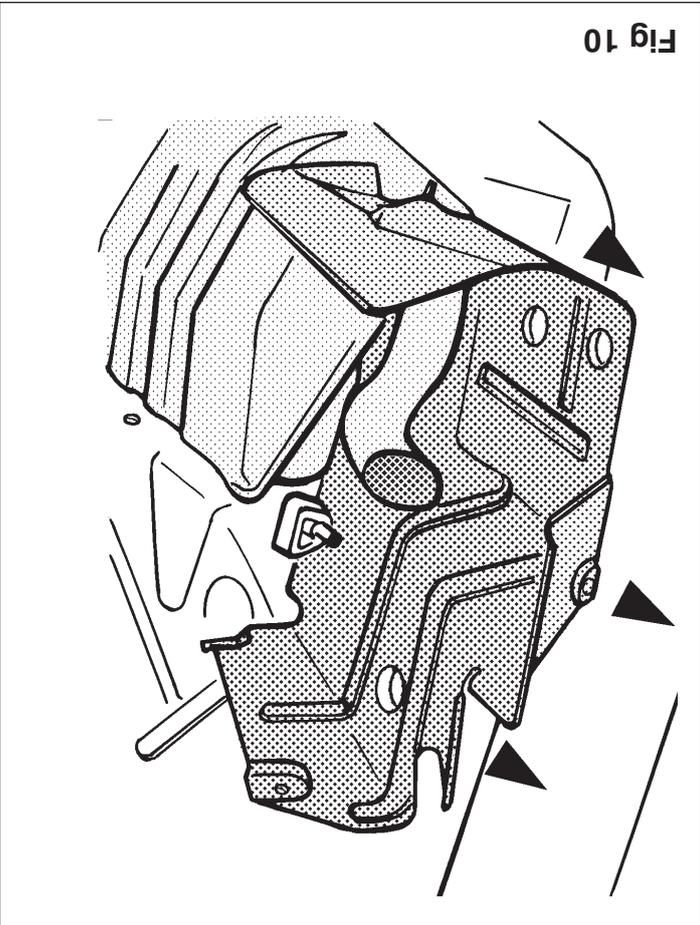
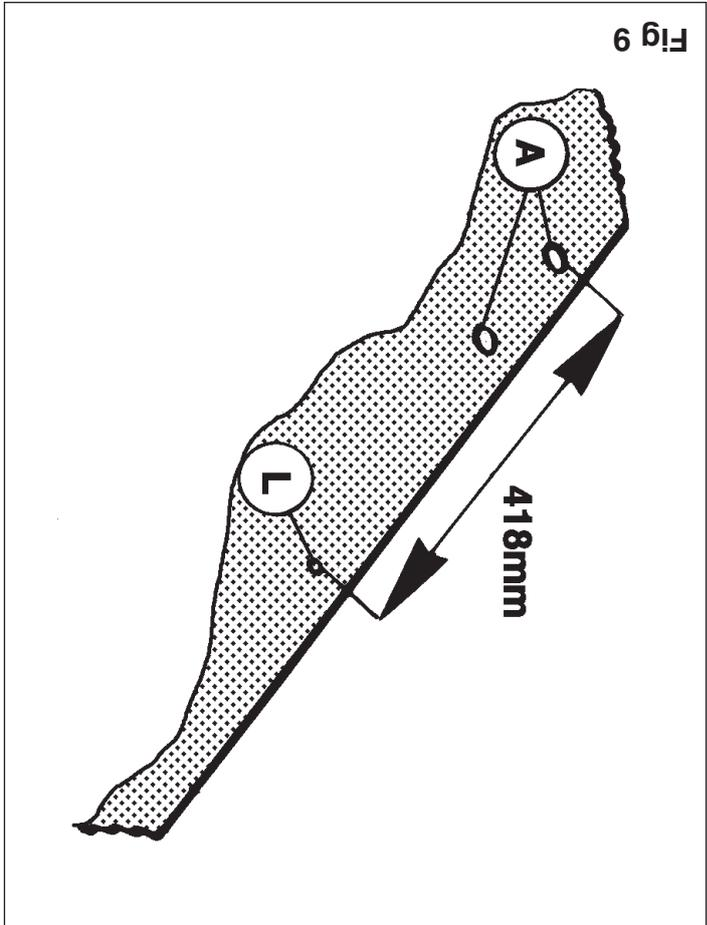
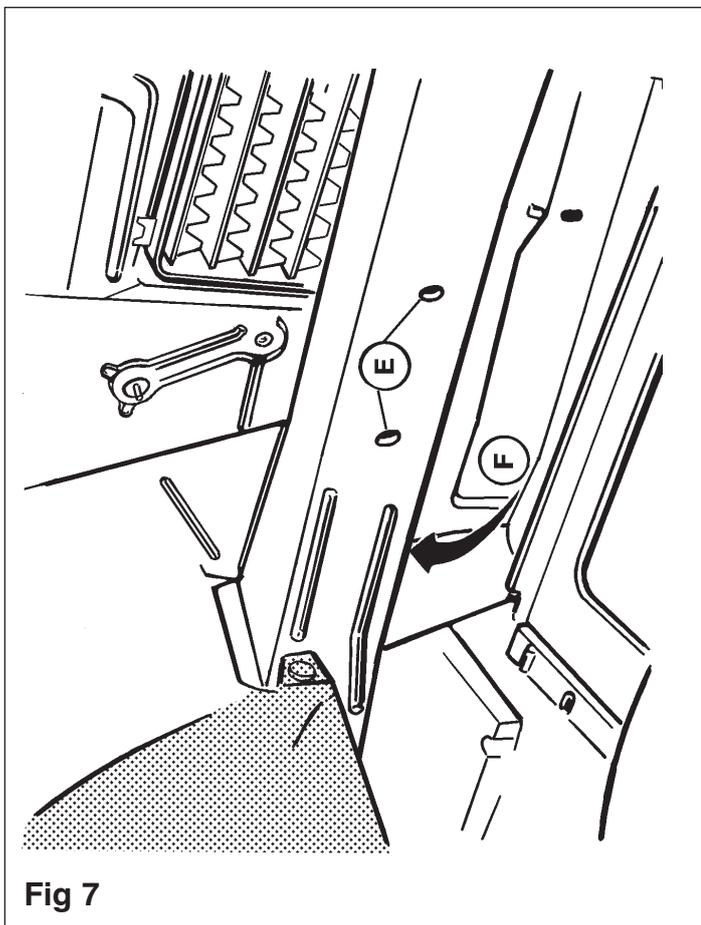
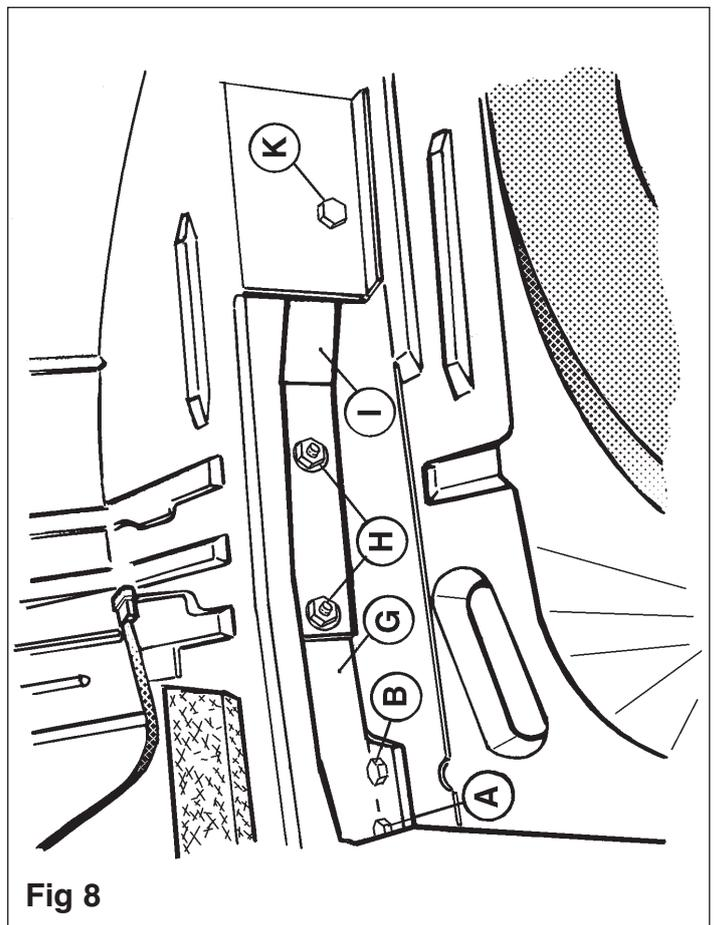

Fig 10
Fig 9
Fig 7
Fig 8
3. Plaats contra l overeenkomstig fig.8 en bevestig t.p.v. de punten H twee bouten M10x35 inclusief sluitringen ø25x10.5x4, veerringen en moeren. Bevestig t.p.v. de punten L en K twee bouten M10x35 inclusief sluitringen M12x45 inclusief veer-, sluitringen en moeren. Boor de gaten H
2. Boor de deukjes genoemd in punt 1, 15mm door de bodemplaat. Plaats contra's C en D overeenkomstig fig.5 en fig.6 in de kofferbak. Bevestig t.p.v. de punten D twee bouten M10x35 inclusief sluitringen ø25x10.5x4, sluitring ø25x10.5x4 en veerring overeenkomstig schets en fig.7. Breng contra G overeenkomstig fig.8 in de kofferbak aan. Plaats de trekhaak en bevestig deze overeenkomstig schets t.p.v. de punten A d.m.v. vier bouten M12x45 inclusief veer-, sluitringen en moeren. Boor de gaten H 1mm door. Meet overeenkomstig fig.9 de aangegeven maat af op het linker chassis (onderkant voertuig) en verwijder ter plaats het kit. Boor het ter plaatsse aanwezige deukje, welke overeenkomt met punt L van de trekhaak, 11mm door. Verwijder t.p.v. punt K (kofferbakzijde) de rubberstop.
2. Drill 15 mm holes through the dents in the vehicle floor referred to in point 1. Place back plates C and D in the trunk as shown in fig.5 and fig.6. Fasten two M10x35 bolts with $\varnothing 25 \times 10.5 \times 4$ flat washers, spring washers and nuts at points D. Fasten one M10x35 bolt with $\varnothing 25 \times 10.5 \times 4$ flat washer and nut at point F, as shown in the sketch and fig.7. Place back plate G in the trunk as shown in fig.8. Put the tow bar in place and fasten this at points A using four M12x45 bolts with flat and spring washers and nuts, as shown in the sketch. Drill the 11 mm holes H. Mark off the given length on the left chassis beam (vehicle underside), as shown in fig.9, and remove the sealant from these spots. Drill an 11 mm hole through the dent which corresponds to point L of the tow bar. Remove the rubber plug from point K (on the trunk side).
3. Put back plate I as shown in fig.8 and fasten two M10x35 bolts with $\varnothing 25 \times 10.5 \times 4$ flat washers, spring washers and nuts at points H. Fasten two M10x35 bolts with $\varnothing 25 \times 10.5 \times 4$ flat washers and spring washers at points L and K. Saw the indicated lug off the jack bracket, as shown in fig.10. Place the hitch housing between the ball hitch mounting plates and fasten this in place using two M10x80 (10.9) bolts with flat washers and self-locking nuts at points Z. Tighten all nuts and bolts to the values shown in the table. Replace everything removed in point 1.
2. Die Einkerbungen, wie in Punkt 1 genannt, 15mm durch die Bodenplatte bohren. Die Kontras C und D laut Fig.5 und 6 in den Kofferraum legen. An den Punkten D zwei M10x35-Schrauben inkl. $\varnothing 25 \times 10.5 \times 4$ -Unterlegscheiben, Federringen und Muttern befestigen. An Punkt F einen M10x35-Schrauben inkl. $\varnothing 25 \times 10.5 \times 4$ -Unterlegscheibe und Federring laut Skizze und Fig.7 befestigen. Kontra G laut Fig.8 im
3. Kontra I laut Fig.8 anlegen und an den Punkten H zwei M10x35-Schrauben inkl. ø25x10,5x4-Unterlegscheiben, Federringen und Muttern befestigen. An den Punkten L und K zwei M10x35-Schrauben inkl. ø25x10,5x4-Unterlegscheiben und Federringen befestigen. Laut Fig.10 die angegebene Lippe vom Wagenheberhalter herausägen. Die Kugelgehäuse zwischen den Kugelbefestigungspalten anlegen und bei den Punkten Z mit Hilfe von zwei M10x80 (10.9)-Schrauben einschließen. Unterlegscheiben und selbstsichernder Muttern befestigen. Alle Schrauben und Muttern laut Tabelle festziehen. Das unter Punkt 1 Entfernte wieder anbringen.
le grower conformément au croquis et à la fig.7. Amener la contre-pièce G dans le coffre, conformément à la fig.8. Positionner l'attache-remorque et la fixer conformément au croquis à l'emplacement des points A à l'aide de quatre boulons M12x45, rondelles grower, rondelles de blocage et écrous inclus. Percer les trous H de 11 mm. Mesurer la dimension indiquée sur le longeron de châssis gauche (dessous du véhicule), conformément à la fig.9, et enlever le mastic présent à cet endroit. Percer de 11 mm l'encoche existante correspondant au point L de l'attache-remorque. Enlever le bouchon en caoutchouc à l'emplacement du point K (côté du coffre).
3. Positionner la contre-pièce I conformément à la fig.8 et monter à l'emplacement des points H deux boulons M10x35, y compris les rondelles de blocage ø25x10,5x4, les rondelles grower et les écrous. Monter à l'emplacement des points L et K deux boulons M10x35, y compris les rondelles de blocage ø25x10,5x4 et les rondelles grower. Découper la languette du porte-cric indiquée, conformément à la fig.10. Positionner le logement de la rotule entre les plaques de fixation de la rotule et la fixer à l'emplacement des points Z à l'aide de deux boulons M10x80 (10.9) y compris les rondelles de blocage et les écrous autoforants. Serrer tous les boulons et écrous conformément au tableau. Remettre en place les pièces déposées au point 1.
2. Bor fordybningerne, som blev nævnt under punkt 1, 15 mm igennem bunden. Placer spændpladerne C og D ifølge fig. 5 og fig. 6 i bagagerummet. Monter en bolt M10x35 ved punkterne D, inklusiv planskiver ø25x10,5x4, fjederskiver og møtrikker. Monter en bolt M10x35 ved punkt F, inklusiv planskive ø25x10,5x4 og fjederskive ifølge tegningen og fig. 7. Anbring spændpladen G i bagagerummet ifølge fig. 8. Placer anhængertrækket og monter det ved punkterne A med fire bolte M12x45, inklusiv fjeder- og planskiver samt møtrikker. Bor hullerne H 11 mm igennem. Ud mål den angivne længde på det venstre chassis (på den anden kant af bil) ifølge fig. 9, og fjern kittet på dette sted. Bor 11 mm igennem den eksisterende fordybning, som svarer til punkt L på anhængertrækket. Fjern gummiroppen ved punkt K (ved bagagerummet).
3. Placer spændpladen I ifølge fig. 8, og monter to bolte M10x35 ved punkterne H, inklusiv planskiver ø25x10,5x4, fjederskiver og møtrikker. Monter to bolte M10x35 ved punkterne L og K, inklusiv spændplader
ø25x10.5x4 og fjederskiver. Sav den markerede hage af donkraftholderen ifølge fig.10. Anbring kuglehuset mellem kuglebeslagene, og monter dem i punkterne Z med to bolte M10x80 (10.9), inklusiv planskiver og selvvlåsende møtrikker. Spænd alle bolte og møtrikker ifølge tabellen. Monter de dele, som blev fjernet underpunkt 1.
2. Perforar 15mm a través del suelo de fondo las depresiones mencionadas bajo el punto 1. Colocar las contratuercas C y D en el maletero de acuerdo a las figuras 5 y 6. Fijar a la altura de los puntos D dos tornillos M10x35 inclusive arandelas diám.25x10.5x4, anillos resorte y tuercas. Fijar a la altura del punto F un tornillo M10x35 inclusive arandela diám.25x10.5x4 y anillo resorte, de acuerdo al croquis y la fig.7. Aplicar la contratuerca G en el maletero como indica la fig.8. Colocar el gancho de remolque y fijarlo como indica el croquis a la altura de los puntos A, usando cuatro tornillos M12x45 inclusive anillos resorte, arandelas y tuercas. Perforar 11mm los orificios H. Medir en el chasis izquierdo (parte inferior del vehículo) la medida indicada de acuerdo a la fig.9 y retirar la cola que se encuentra en este lugar. Perforar 11mm la depresión existente en este lugar, correspondiente con el punto L del gancho de remolque. Retirar el tapón de caucho a la altura del punto K (en el lado del maletero).
3. Colocar la contratuerca I de acuerdo a la fig.8 y fijar a la altura de los puntos H dos tornillos M10x35 inclusive arandelas diám.25x10.5x4, anillos resorte y tuercas. Fijar a la altura de los puntos L y K dos tornillos M10x35 inclusive arandelas diám.25x10.5x4 y anillos resorte. Serrar como indica la fig.10 la lengüeta indicada del soporte del gato. Colocar la caja de la bola entre las placas de fijación de la bola y fijarla a la altura de los puntos Z por medio de dos tornillos M10x80 (10.9) inclusive arandelas planas y tuercas de seguridad. Apretar todos los tornillos y tuercas según los puntos indicados en la tabla. Volver a colo-